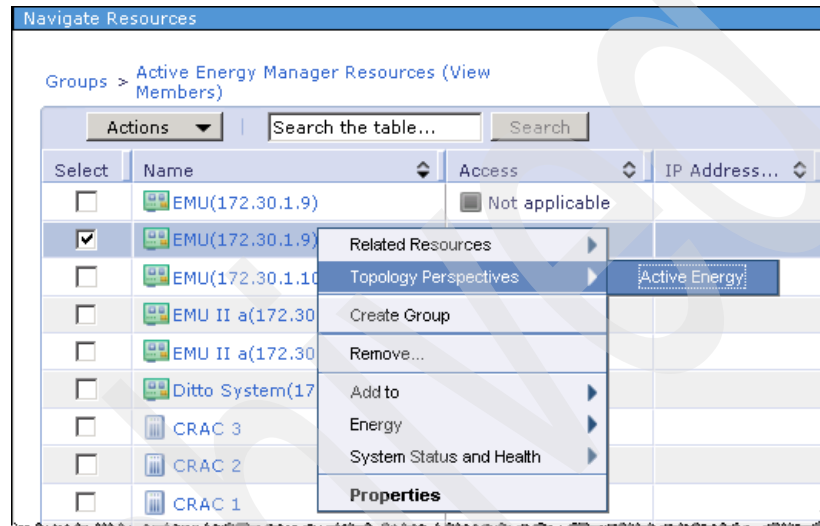

Figure 10-25 Navigating to Topology view of APC ISXC server managed facility equipment
2. Right-click any facility management equipment that is managed by Eaton Power Xpert Reporting or APC ISXC server, and select **Topology Perspectives** → **Active Energy** as shown in Figure 10-25.